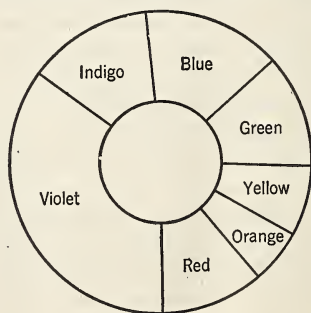

FIG. 532. A disc colored as indicated gives white light when rotated rapidly.
2. If we have given a disc which has the spectral colors painted upon it, as in Fig. 532, we may combine the colors by rotating the disc rapidly. Since we have duration of vision, the light from one color forms an image which persists on the retina until each of the other colors in turn has been reflected to the eye. We really see them all at one time, and if pure spectral colors are used, they will blend to produce white light. Because certain colors fade rapidly, pure white is seldom seen when this experiment is performed.